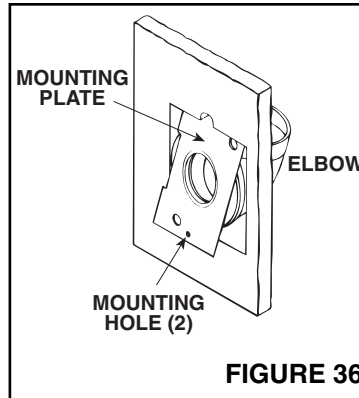

FIGURE 36
3. Refer to Figure 36. Glue elbow to mounting plate, place assembly into cutout, and attach elbow to tubing inside the wall.